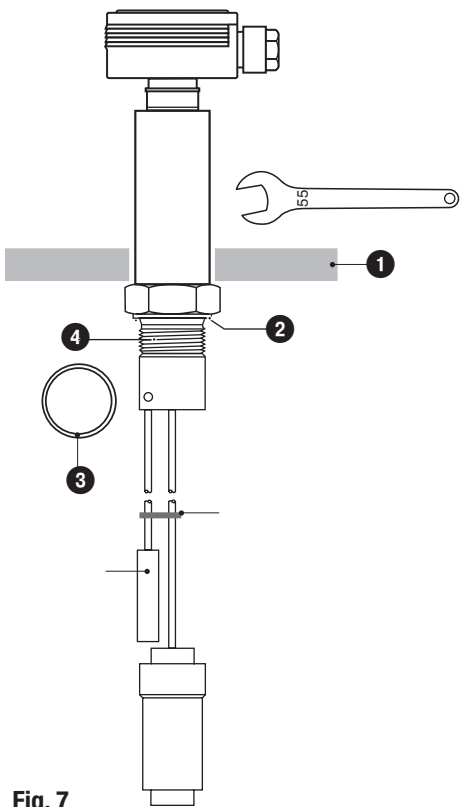

Fig. 7
2. Place joint ring ③ onto seating surface ② of the electrode. **Fig. 5, Fig. 7**